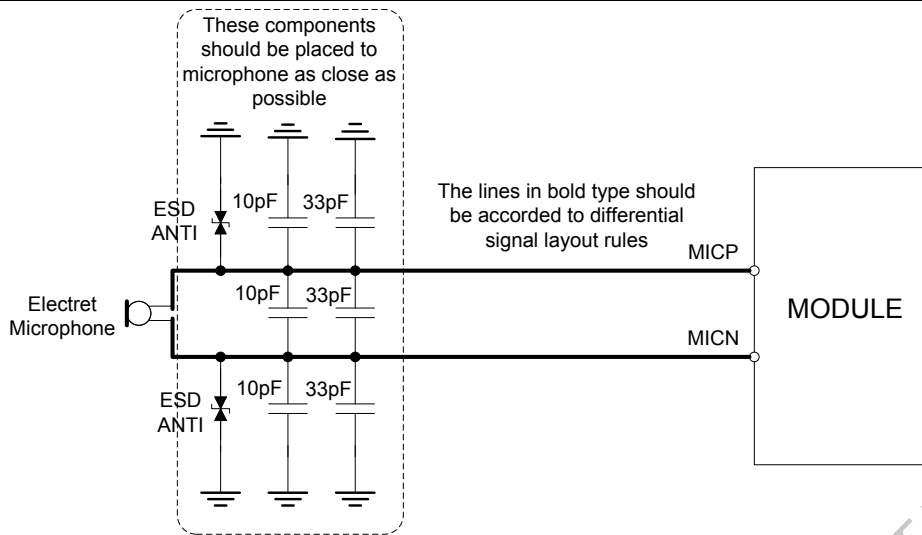

Figure 24: Microphone interface configuration
To get good RF performance in user's design, SIMCom suggests user to use the matching RF adapter cable which is also supplied by HRS (Part Number: U.FL-LP (V) -040), the following figure (Figure 24) is the dimensions of U.FL series RF adapter cable. User can contact SIMCom for more information.